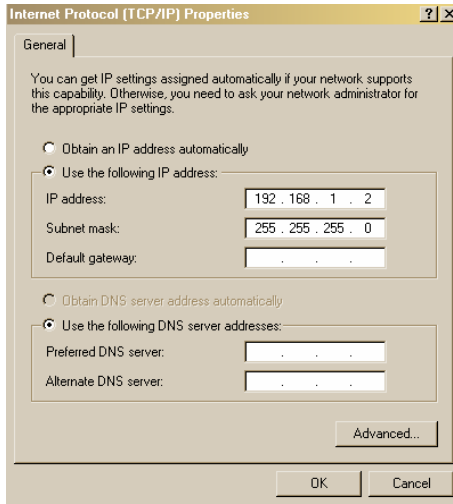

Figure 22: Internet Protocol (TCP/IP) Properties Window
6. Select Use the following IP Address, and fill in the details as shown in Figure 22.